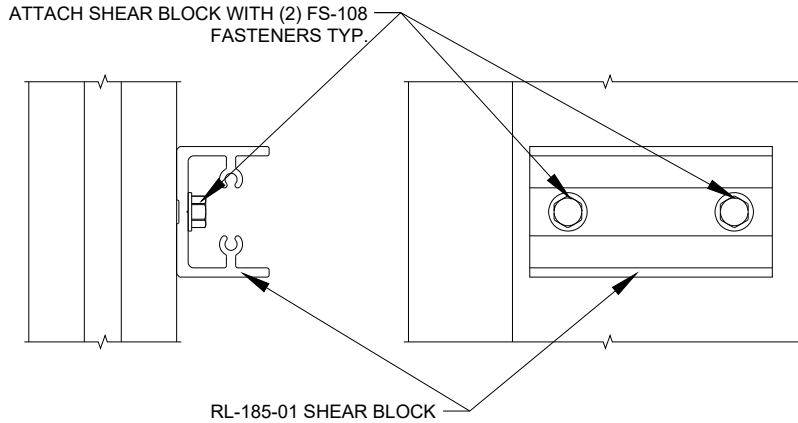

Figure 28: Optional Shear Block Attachment
- 10.2 If using the optional **RL-185-01** Shear Blocks, attached to the Vertical with (2) **FS-108** Fasteners, see *Figure 28*.